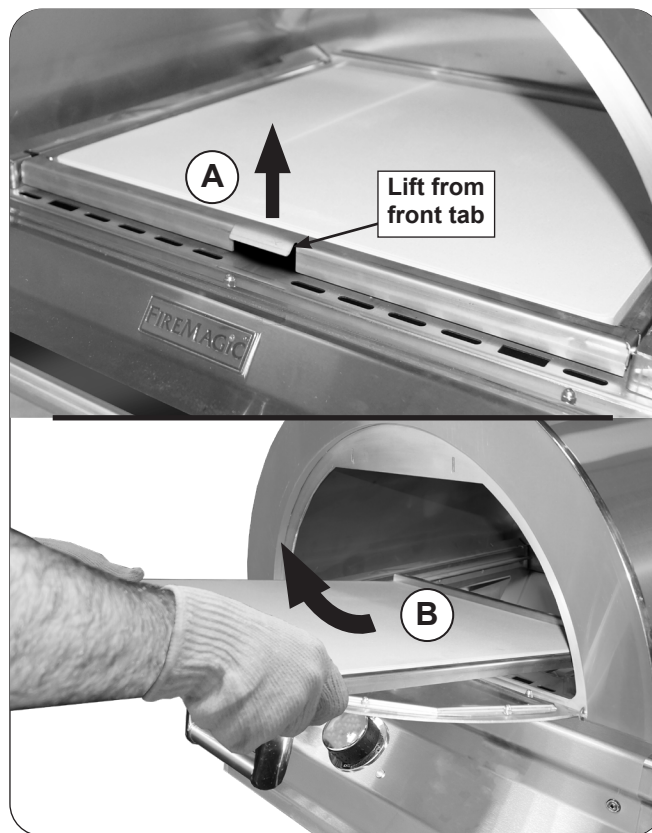

Fig. 40-2 Stone/frame removal
2. Grasp the center front tab of the pizza stone support frame and carefully lift upward to free the notches from the left and right side rail pegs (see Fig. 40-2, A).
4. Reposition your hands from the front tab to the sides of the frame. Lift the frame upward and out of the oven. See Fig. 40-2, B.